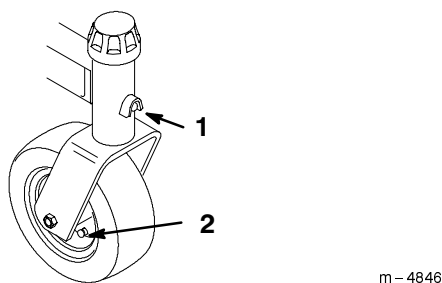

Figure 69
4. Grease the fittings on the carrier frame castor hubs and castor wheels (Fig. 69).